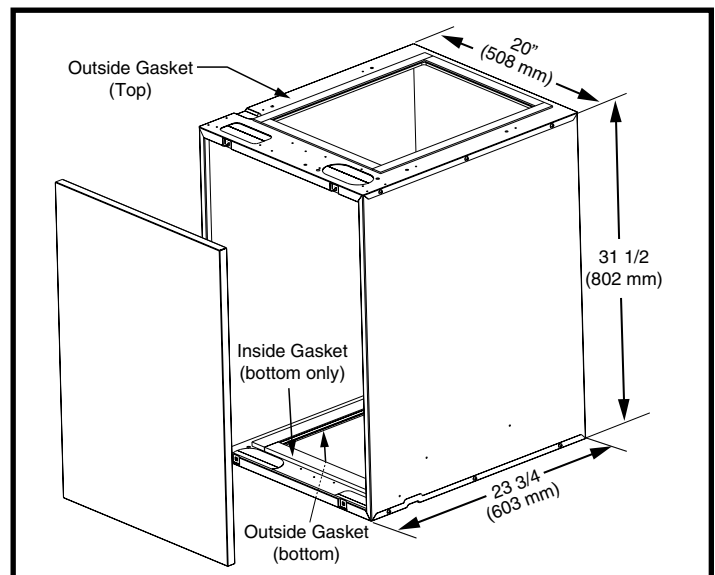

Figure 1. Coil Cabinet Dimensions
This coil cabinet is designed for non-ducted downflow and front return installations. The outside top and bottom are factory equipped with gasketing to ensure a sealed fit with the electric furnace. See Figure 1.
1. Position the downflow furnace over the opening in the floor. See installation instructions provided with the furnace for floor cutout dimensions. **NOTE:** Make sure the airflow opening in the furnace is properly aligned and unrestricted over the opening in the floor. See installation instructions provided with the furnace for floor cutout dimensions. Coil cabinet dimensions are shown in Figure 1.